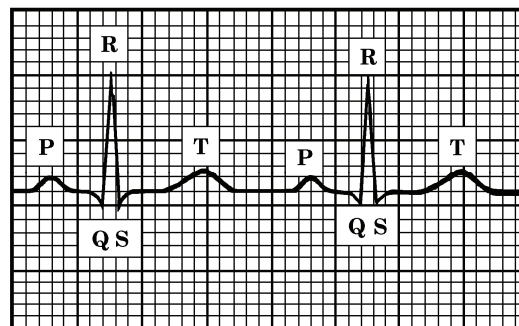

Figure 3-2. EKG tracing
- b. Ensure a complete and readable EKG tracing. Refer to Figure 3-2.